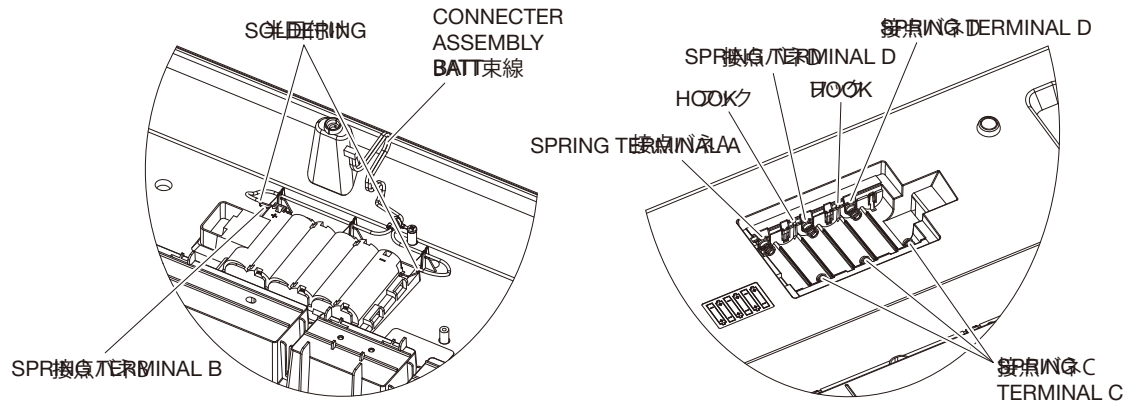

Fig.9
2. Remove the BATT ribbon cable soldered to spring terminals A and B. (Fig.9)
4. Spring terminal A is removed by slowly lifting upward and then sliding to the top right. (Fig.9)
5. To remove spring terminal B, release the hook, and pull it out from the inside. (Fig.9)
2. Release the hooks, and pull out spring terminals C and D. (Fig.9)